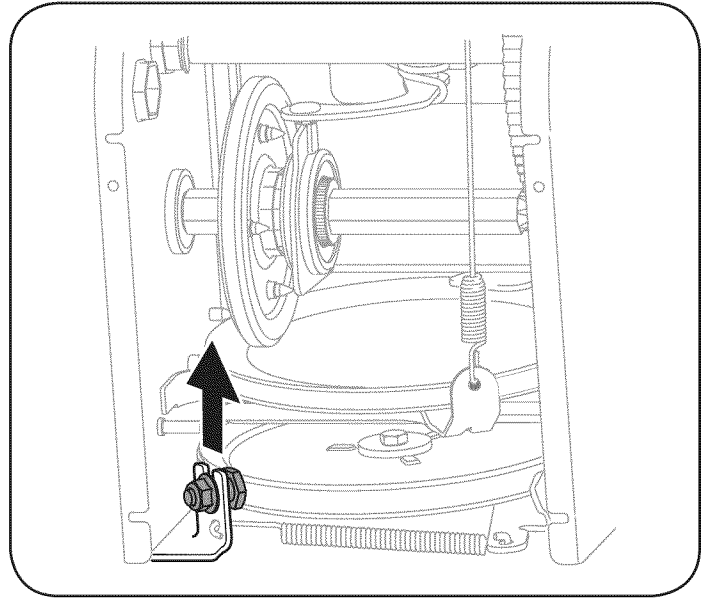

Figure 33
- Loosen and remove the shoulder screw which acts as a belt keeper. Refer to Figure 33.